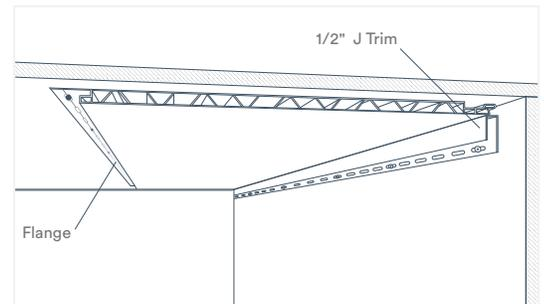

Fig. 9
4. After the first panel row is installed, immediately install the J Trim for the top of the wall below, by pushing the trim tight to the face of the ceiling panel(s) with the channel facing away from the panels and fasten to the wall. This will hold up the side of the ceiling panel that was not fastened. Ensure the length of trim is cut 1/2" short in one corner (Fig. 9).